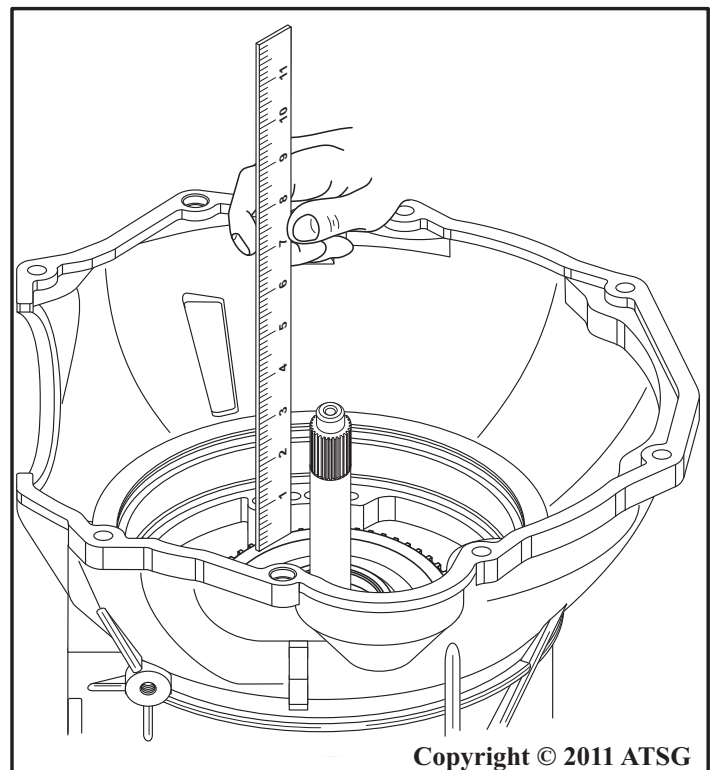

Figure 45
26. Before removing the input housing, measure and record the installed distance from input clutch hub to the case oil pump surface, as shown in Figure 45, for re-assembly verification.